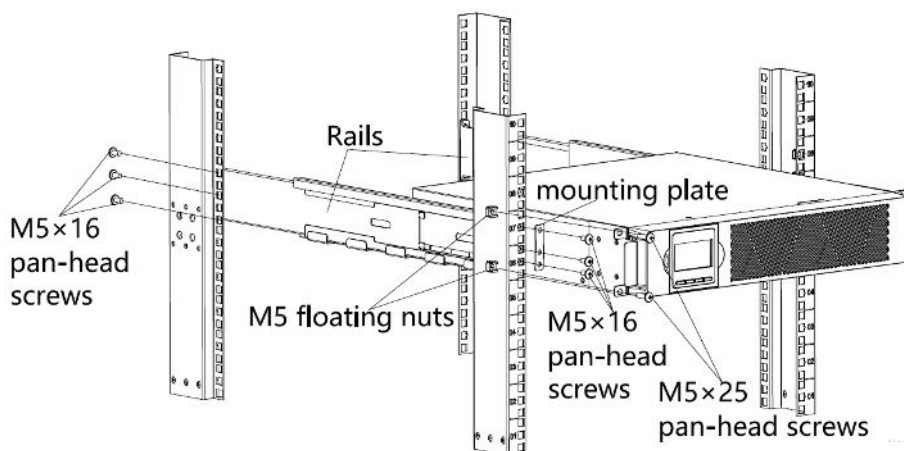

Figure 1 Securing the Rails
- a) Assemble the left and right rails to the rear rails as shown in Figure 1. Do not fully tighten the screws yet. Adjust each rail to fit the depth of your rack.
- b) Choose the appropriate position in the rack for the UPS (see Figure 1). The rail assembly will occupy four positions on both the front and rear of the rack.